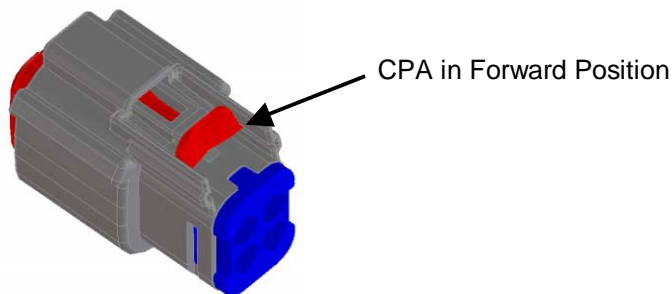

Figure 4: CPA in Locked Position
- After mating the plug and receptacle connectors, push the Connector Position Assurance feature (CPA) on the receptacle forward until it clicks or is as far forward towards mating end of receptacle as possible (See Figure 4). This will prevent accidental depression of latch and un-mating of connectors.